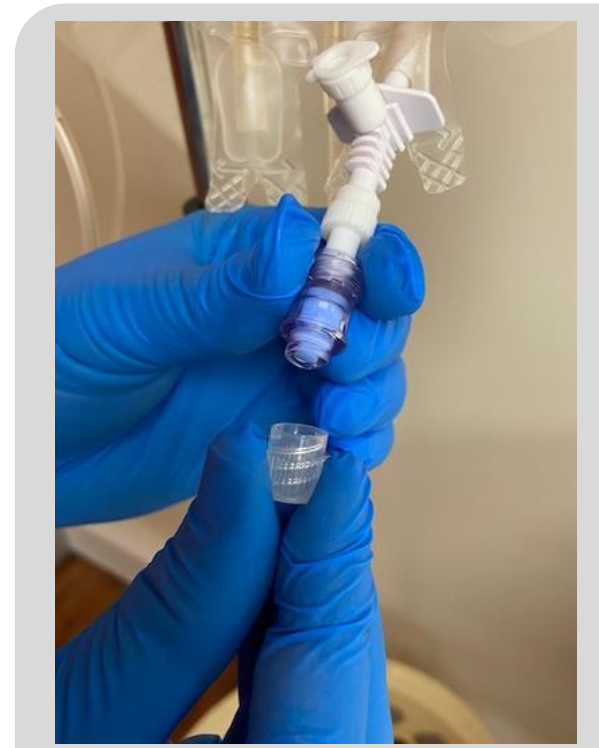

Fig. 5
- Remove the needle-free valve cap (Fig. 5). Put it to one side in its sterile packet.